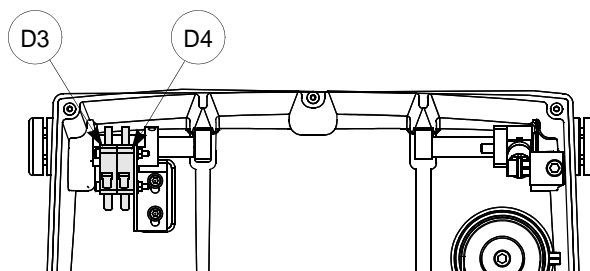

Fig. 132
Protective shield is closed but the display reads "close shield"	a) the closed protective shield is not making proper contact with the microswitch (D3) (fig. 132)
b) cutter microswitch on protective cover triggered or disconnected (D4) (fig. 132).